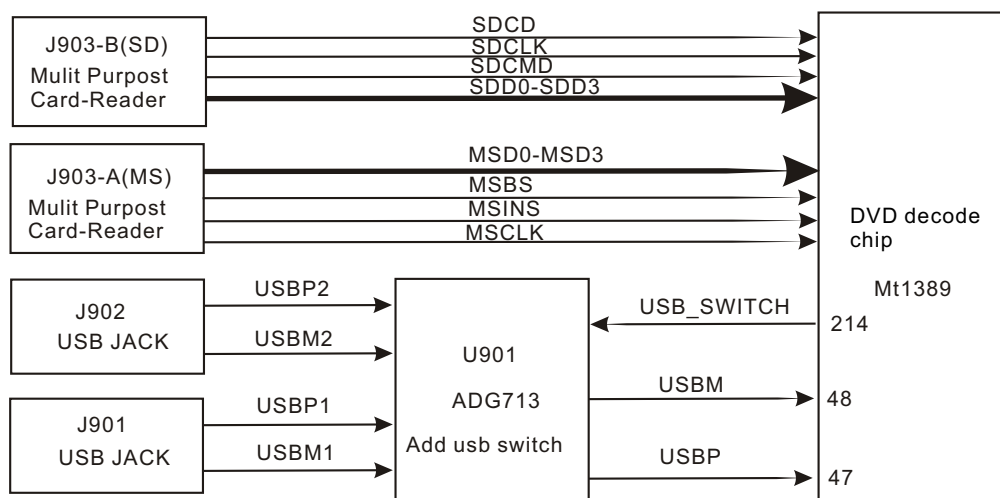

Figure 3.2.12.1 usb/card circuit diagram
1. USB/CARD circuit is shown as in the following figure 3.2.12.1: